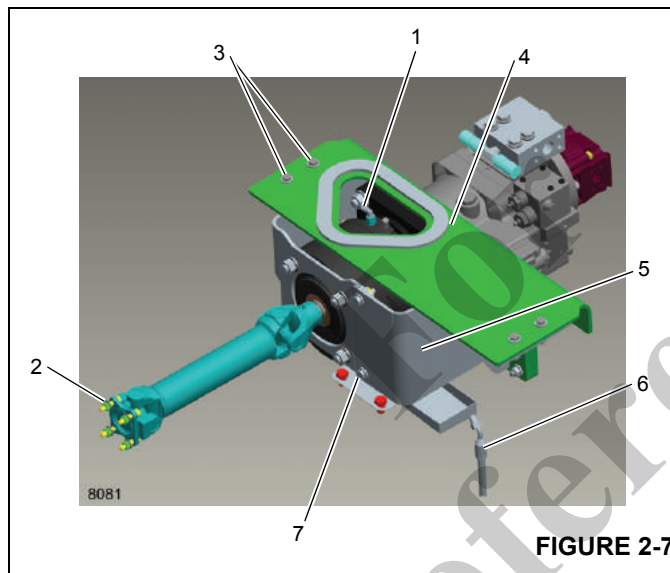
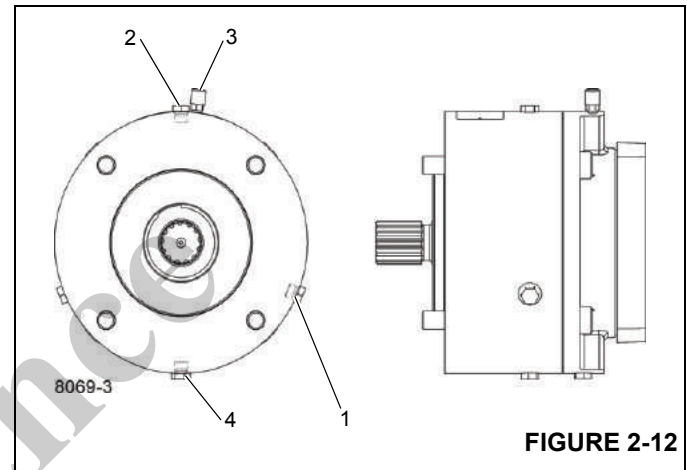

FIGURE 2-7
FIGURE 2-12
2. Depressurize the air system and disconnect the clutch air line (1, Figure 2-7) from the clutch.
3. Remove the cap screws, nuts and washers (2) connecting the PTO driveline to the engine. Remove the driveline.
7. Remove the four cap screws, nuts and washers (3, Figure 2-7) securing the clutch mounting bracket (4) to the frame.
1. Remove access cover (5, Figure 2-7).
2. Open check plug (1, Figure 2-12) and check that oil is even with bottom of threads.
3. If necessary, remove fill plug (2) and add hydraulic oil until it is even with the bottom of the check plug threads.
4. Reinstall access cover (5, Figure 2-7) and secure with hardware (7). Refer to *Fasteners and Torque Values*, page 1-13.
When changing oil, place suitable container under drain pan hose (6, Figure 2-7) before removing drain plug (4, Figure 2-12). Remove and clean breather (3) and inspect and clean magnetic drain plug (4) for contamination or particles before reinstalling. For more information, refer to *Lubrication*, page 9-1.